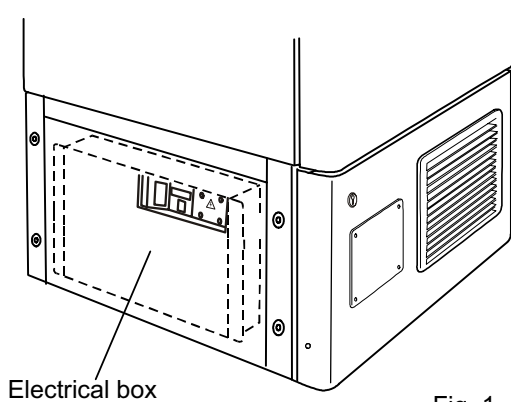

Fig. 1
This unit is provided a nickel-metal-hydride battery for the power failure warning device. The battery is located in the electrical box inside the cover on the lower left side. (Fig. 1)
1. Remove four screws on the front panel and take it off. By removing four screws, take off the left side panel. Then take off the cover for the recorder mounting space by removing four screws. (Fig. 1)